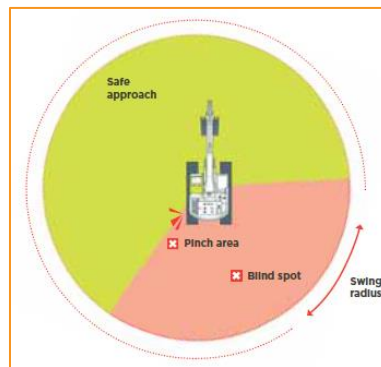

Figure 6. Safe approach zone for an excavator
- Provide an exclusion zone around the heavy equipment in use. See Figure 6.